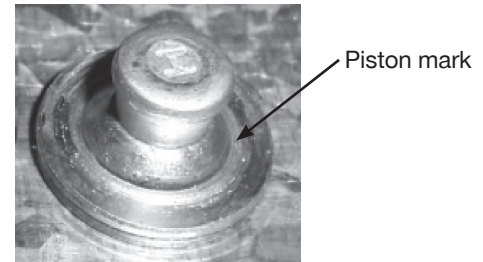

Figure 10: X-ENP-19 L15 piston mark (indentation)
3. Washer placement and condition. In general, the fastener washer edges must be clamping the steel deck sheet to the base steel. The washers should not curl upwards away from the deck surface and must not be digging or cutting into the steel deck surface. For the X-HSN 24 fastener, the top hat washer must be compressed. For the X-ENP-19 fastener, the piston mark (indentation) should be clearly visible on the fastener washer as shown in Figure 10.